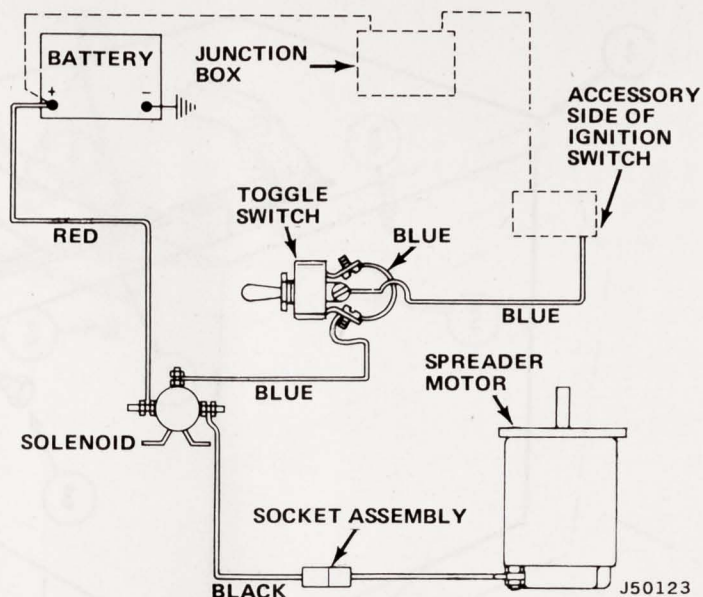

Fig. 4-7 Installation of Electrical Components
(1) Connect one end of red wire to positive side of battery, and other end to side terminal of motor solenoid (fig. 4-7).
(2) Connect ends of blue jumper wire to outside terminals of toggle switch.
- (1) Shut off power by disconnecting plug from socket assembly (fig. 4-7 and 4-8).